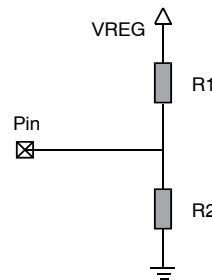

Figure 10. Sixteen Configurations and Their Resistor Values
- Resistive dividers are used to provide a fixed value to any of the parameters controlled by the four configuration pins. Table 1 shows parameter values related to corresponding configuration numbers (#1 to #16), and Figure 10 lists the corresponding component values to use in the resistive divider (R1 and R2).
- A trimmer can be connected to any of the four configuration pins, allowing the parameter to be controlled by the Audiologist or the end user. The trimmer must be a three-terminal 100 k Ω to 360 k Ω linear taper. The range that the trimmer offers is defined in Figure 10. Maximum gains and frequency ranges are obtained with the default value set #16, which also corresponds to the default position of the trimmer. The position is obtained when the trimmer is turned to its end position, clockwise.